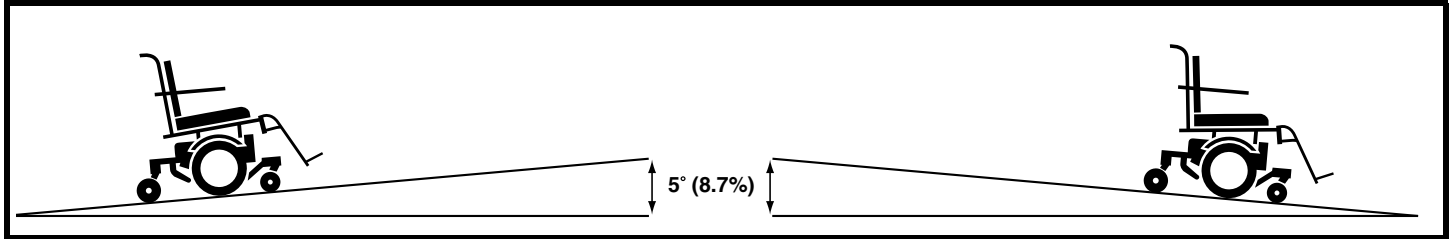

Figure 1. Maximum Safe Slope (Ascending and Descending)
**WARNING! Even though your power chair is capable of climbing slopes greater than those illustrated in figure 1, do not, under any circumstances, exceed the incline guidelines or any other specifications presented in this manual. Doing so could cause instability in your power chair.**
Pride recommends that the maximum slope of an incline you attempt to safely ascend or descend on your power chair does not exceed 5° (8.7%). See figure 1.